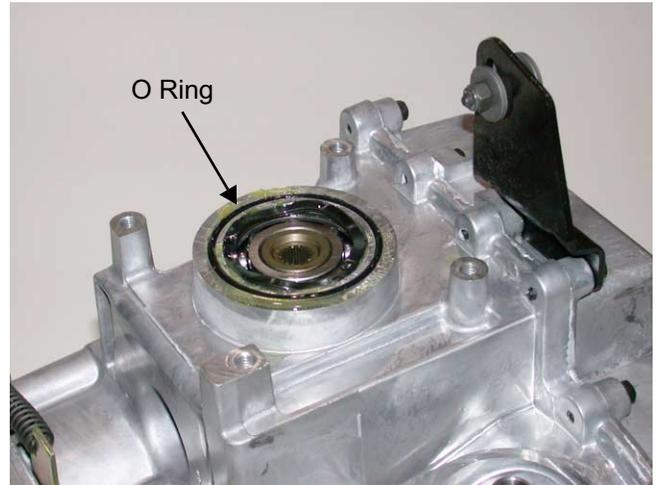

Figure 8.7
8.7. Using a small screwdriver, remove the "O" ring. During reassembly replace the "O" ring. See Figure 8.7.